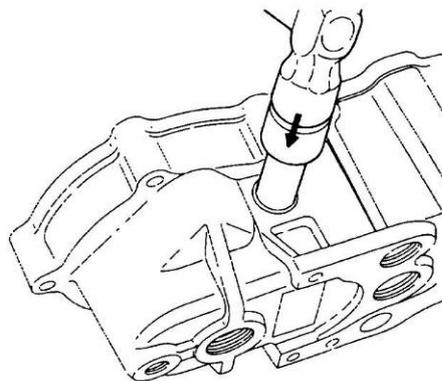

Figure 113 Installing the Expansion Plugs
- k. Install the cancel spring between the tension lever fork, align the bore of the spring with the tension lever shaft and push the shaft in until both ends of the shaft are supported by the governor cover. Using a suitable tool, e.g. a socket, install a new expansion plug into the governor cover at both ends of the tension lever shaft (Figure 113). Apply a liquid adhesive to the outside of each plug to prevent oil leakage.